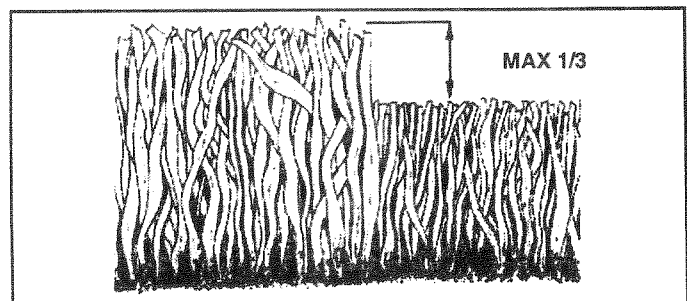

FIG. 12
- For best results, adjust the mower cutting height so that the mower cuts off only the top one-third of the grass blades (See Fig. 12). For extremely heavy mulching, reduce your width of cut and mow slowly.